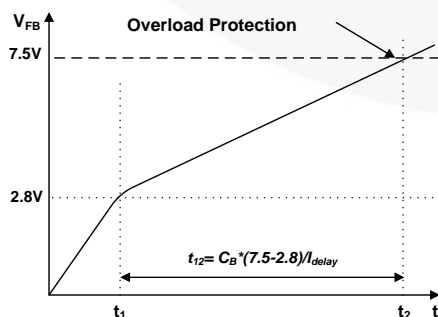

Figure 34. Overload Protection
4.1 Overload Protection (OLP): Overload is defined as the load current exceeding its normal level due to an unexpected abnormal event. In this situation, the protection circuit should trigger to protect the SMPS. However, even when the SMPS is in the normal operation, the over load protection circuit can be triggered during the load transition. To avoid this undesired operation, the overload protection circuit is designed to trigger after a specified time to determine whether it is a transient situation or an overload situation. Because of the pulse-by-pulse current limit capability, the maximum peak current through the SenseFET is limited, and therefore the maximum input power is restricted with a given input voltage. If the output consumes more than this maximum power, the output voltage (V_o) decreases below the set voltage. This reduces the current through the opto-coupler LED, which also reduces the opto-coupler transistor current, thus increasing the feedback voltage (V_{fb}). If V_{fb} exceeds 2.8 V, D_1 is blocked, and the 5 μ A current source starts to charge C_B slowly up to V_{CC} . In this condition, V_{fb} continues increasing until it reaches 7.5 V, then the switching operation is terminated as shown in Figure 34. The delay for shutdown is the time required to charge C_B from 2.8 V to 7.5 V with 5 μ A. In general, a 20–50 ms delay is typical for most applications. OLP is implemented in auto restart mode.